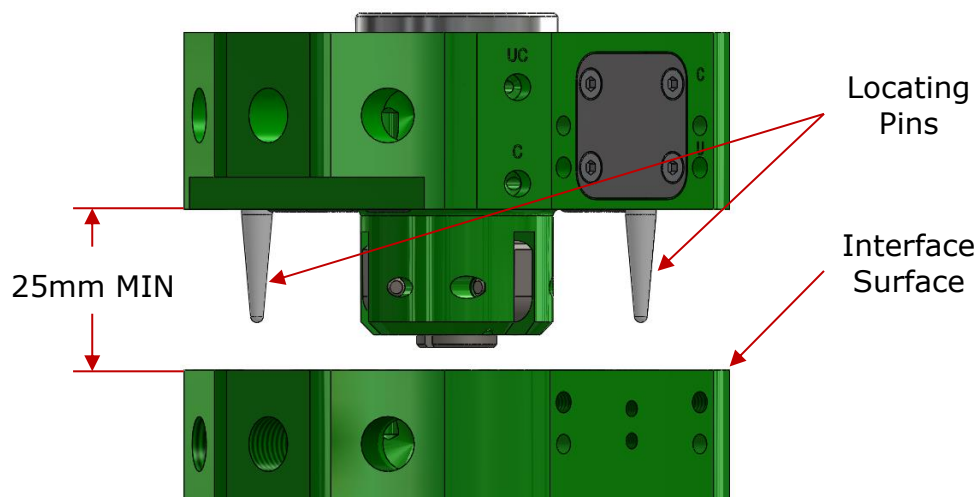

Figure 6.2-1. E50 Tool Changer – Docking Orientation
1. Orient the Robot Side and Tool Side so that the centerline axes are aligned and the interface surfaces are parallel. Maintain approximately 25mm minimum separation between the Robot Side and Tool Side interface surfaces (Figure 6.2-1).